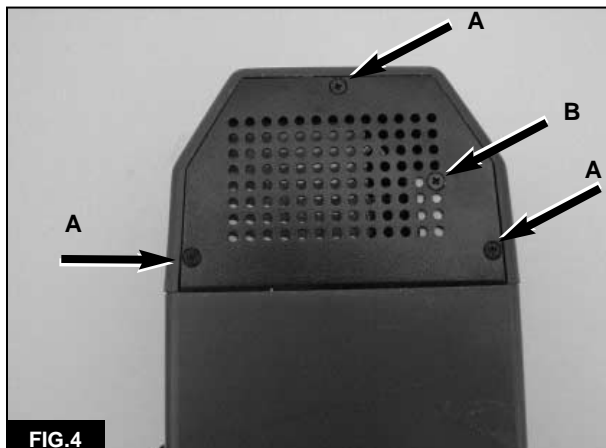

FIG. 4
2. Remove the three charger-cover screws that secure the cover to the vent (A, Figure 4).
4. Remove the screw that secures the charger board to the bracket (B, Figure 4).
4. Secure the board to the bracket with the mounting screw (B, Figure 4).
7. Secure the cover in place with the three charger-cover screws (A, Figure 4).